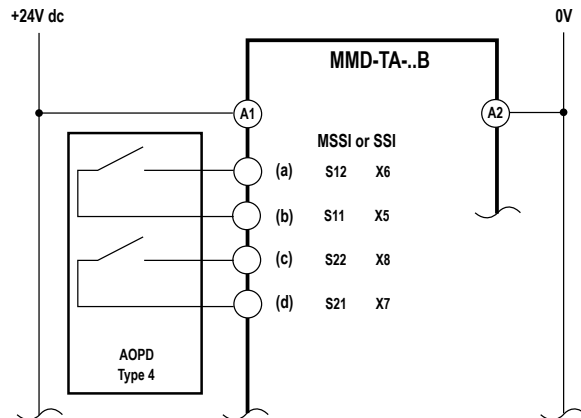

Figure 22. MSSI and SSI Category 4 interfacing: category 4 safeguarding device with relay outputs (for example, MINI-SCREEN or AOPD Type 4 per IEC 61496-1/-2)
**Note:** Solid-state safety outputs, such as those from EZ-SCREEN Type 4 safety light screens, typically achieve this level of fault tolerance by self-monitoring a pulsing of the outputs. Safety devices with hard-contact or relay outputs must be connected in a 4-wire method as shown in Figure 22 (p. 30).